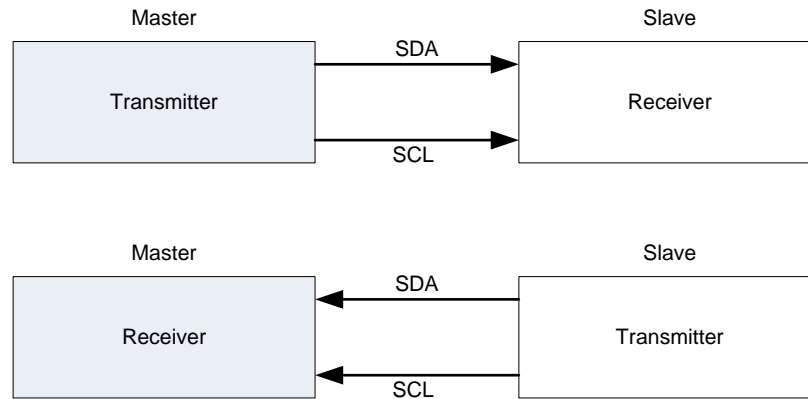

Fig 13-2 Master/Slave and Transmitter/Receiver relationships
- **Slave** – the device addressed by the master. A slave can be either receiver or transmitter. These concepts are illustrated in Fig 13-2.